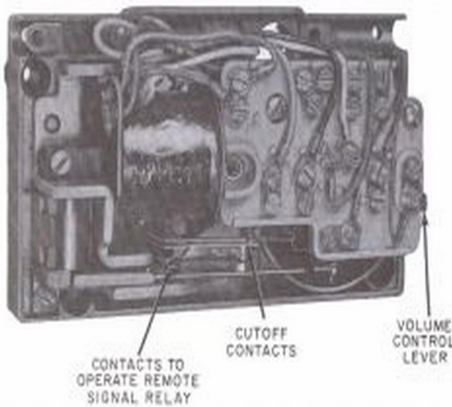

Fig. 3—E1D Ringer, Internal View
**4.02** The E1D ringer is equipped with two sets of contacts (Fig. 3). One set, controlled by the clapper, operates a remote signal relay; the other, operated by the volume-control cam, cuts off remote signals. For connections, refer to section on farm interphone.